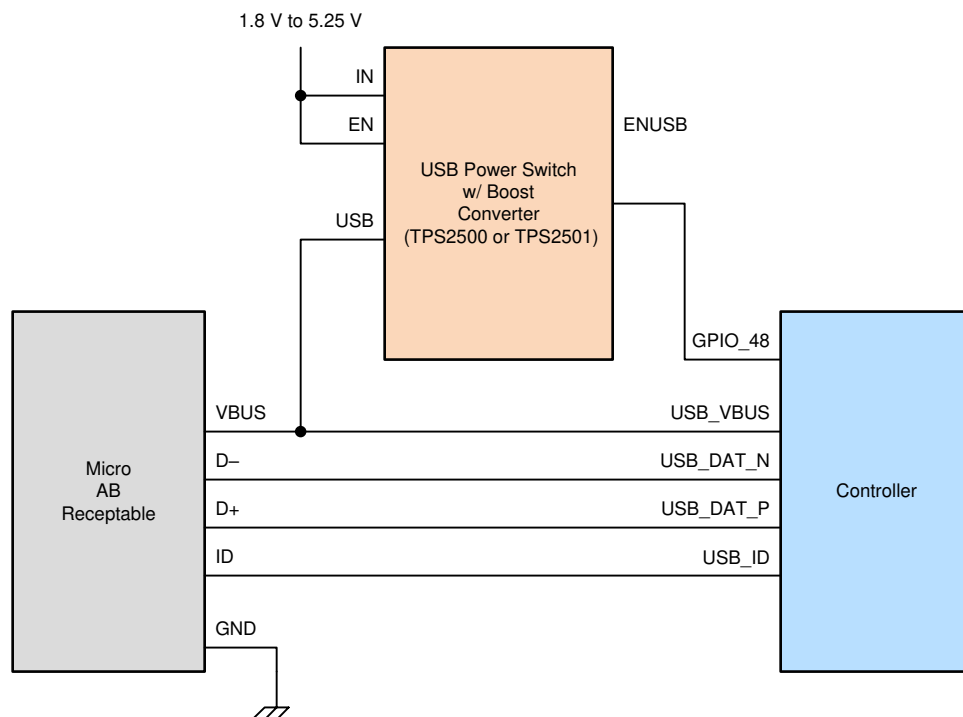

Figure 6-3. External USB Switch Example for DLPC7540 Controller as USB OTG Master
(1) Referenced to VAD33_USB (I/O type 11)
(2) When used as a master as part of USB OTG, the DLPC7540 requires an External USB Switch to provide the USB 5-V power. The example shown in Figure 6-3 makes use of a TI TPS2500/2501 device. The example figure does not describe the required ancillary components (such as, resistors and capacitors). For this information please refer to the USB Switch logic datasheet for the selected device. The External USB Switch is not required for product configurations that are supporting USB slave mode only.